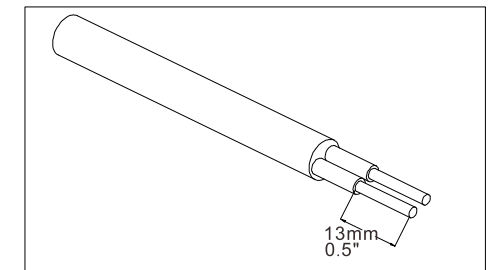

Figure 3
- Cut 0.5 "(13mm) lead (Figure 3).
- **lmetal wire core pull length reference:** Figure 3